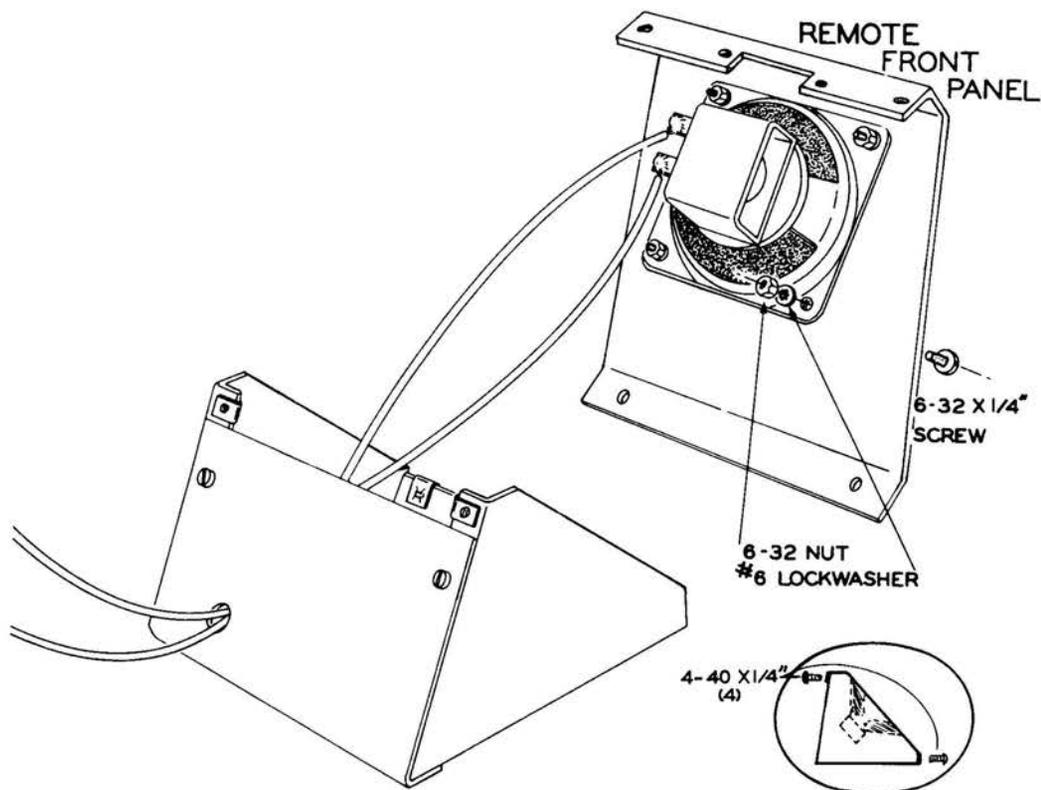

Figure 5R
- Refer to Figure 5R for the following steps.
- () Place the front panel over the end panels as shown in the inset of Figure 5R and fasten it in place with a 4-40 screw in each corner.